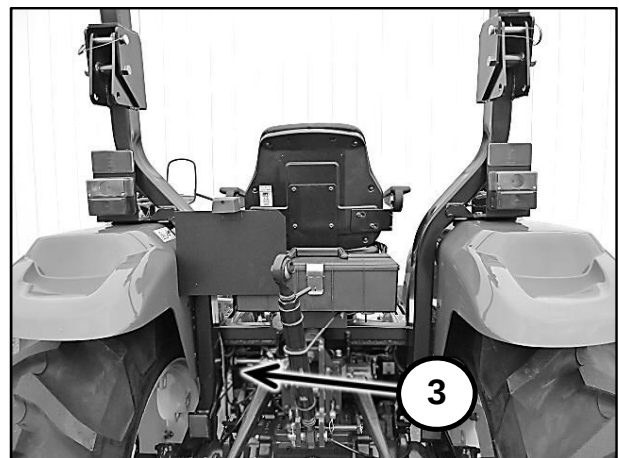

Figure 2-19
The turn signal lights are activated by moving the turn signal switch (3) in Figure 2-19, to the left for left turns or to the right for right turns with the key switch in any position for the turn signals to operate.